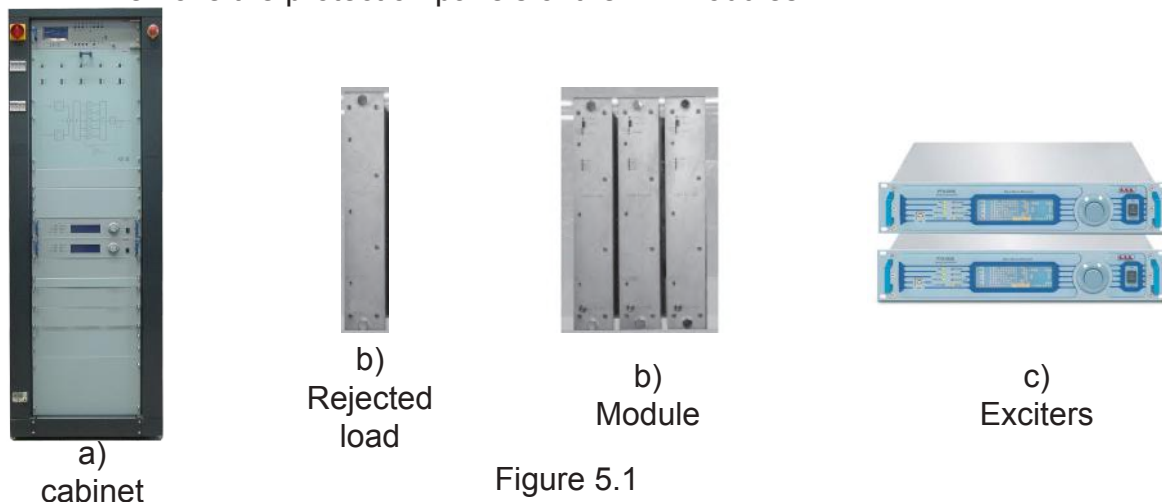

Figure 5.1
- The rack (various components are assembled, such as the coupler, the splitter, the control unit, the main blower) [Figure 5-1 a)]
- The Rejected load [Figure 5-1 b)]
- The 3 RF modules [Figure 5-1 c)]
- The exciters [Figure 5-1 d)]. (As a rule the amplifier is supplied as a complete transmitter. This example shows two PTXLCD exciters produced by R.V.R. Elettronica. Usually the exciters are pre-assembled inside the rack).